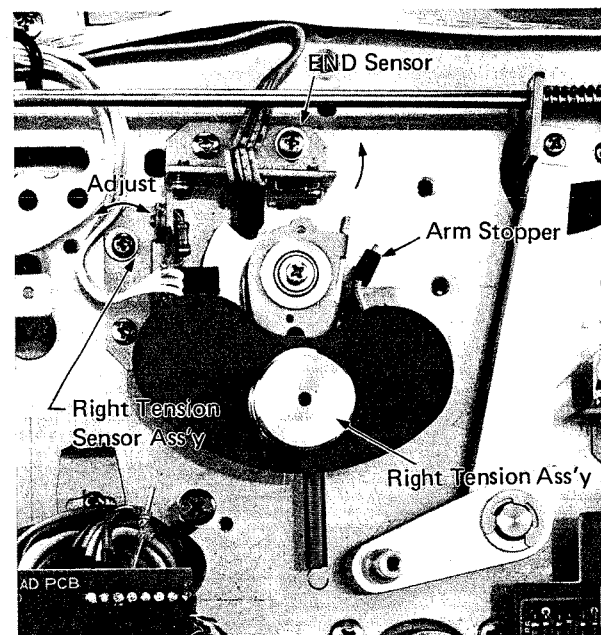

Fig. 7-20. Adjustment Positions of the Right Tension Sensor Ass'y
4. Loosen the adjustment screw on the sensor assembly, and slide the sensor to the right and left until the voltage at TP-1 and TP-2 becomes 8 V \pm 0.3 V. When this value is obtained, go ahead and tighten the adjustment screw. Refer to Fig. 7-20 and 7-21.